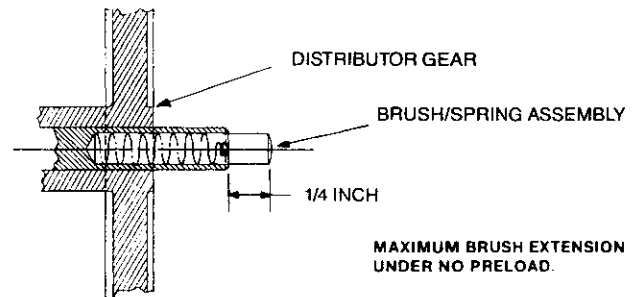

Figure 7.12
2. Gently press the carbon brush and spring assembly into the shaft until the spring seats on the bottom of the shaft. The top of the carbon brush should protrude from the top of the shaft approximately 1/4 inch. (See Figure 7.12).